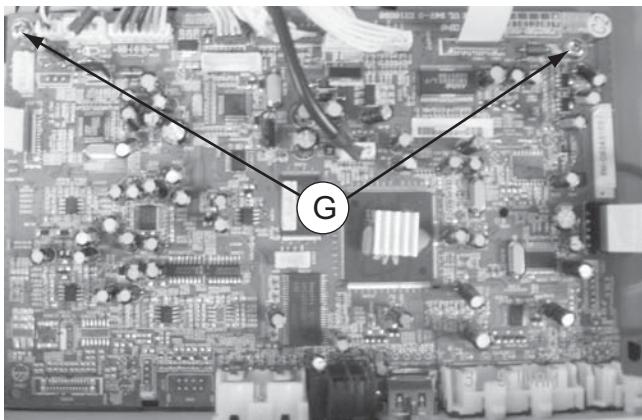

Figure 10
- 1) Loosen 2 screws "G" on the top of Main Board as shown in figure 10.